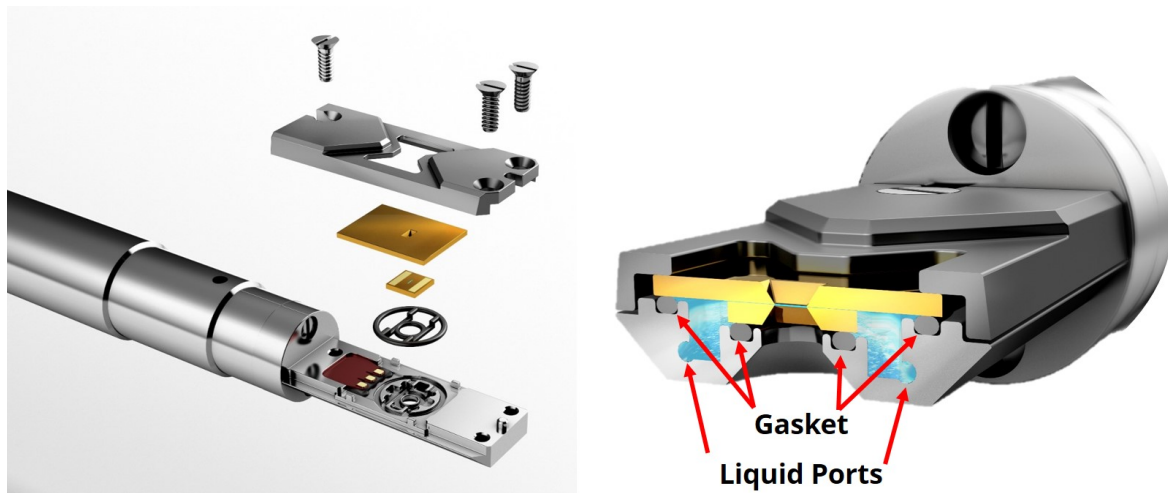

Figure 11: Exploded View and Cross Section of the Assembled TEM Holder
6. After loading inspect the top and underside of the loaded Poseidon tip under a stereomicroscope and verify that the viewing region where the windows overlap is transparent. Rotate the holder very slightly so that the light is reflected off the top window to verify that the window is intact. Rotate the holder 180 degrees and do the same for the bottom window. A diagram and cross section of the fully assembled Poseidon tip is shown Figure 11.